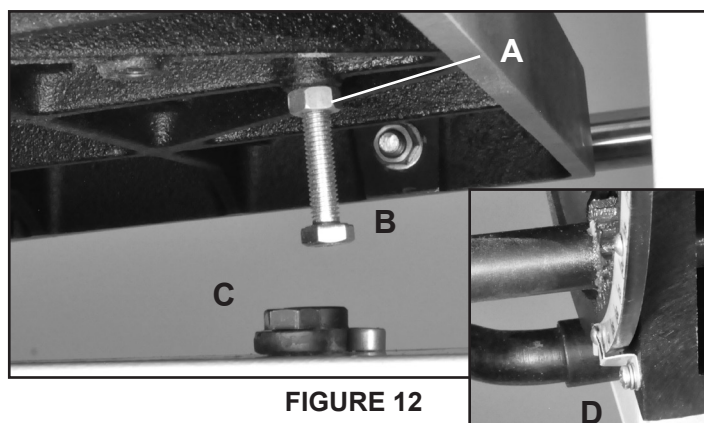

FIGURE 12
Thread the Hex Bolt (#8C) and Nut (#7C) to the bottom of the table in the pre-bored and tapped hole. See Fig. 12, page 13. Setting the table to 90° to the blade will be done later on pages 13 & 14.
1. First loosen the bolt's Locking Nut (#7A) Fig. 12, A.
3. Adjust the bolt (Fig. 12, B), up or down, until it is in contact with the pivoting Table Angle Stop Block (#7A) Fig. 12, C. Retighten the locking nut making sure that the table angle setting is maintained.
4. The angle indicator on the trunnion, under the table, can be adjusted by loosening the Phillips head screw and moving the pointer into position. Fig. 12 D.